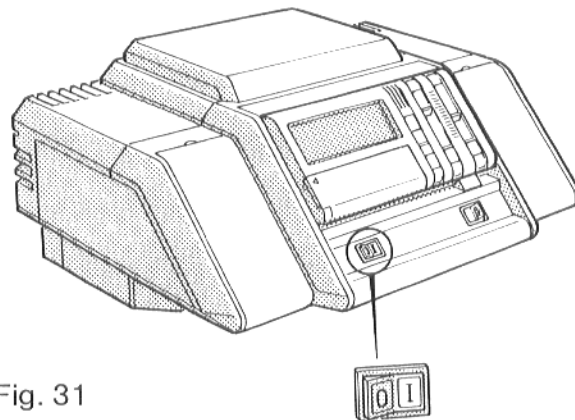

Fig. 31
- Driftsbryteren (fig. 31) settes i stilling I (PÅ).